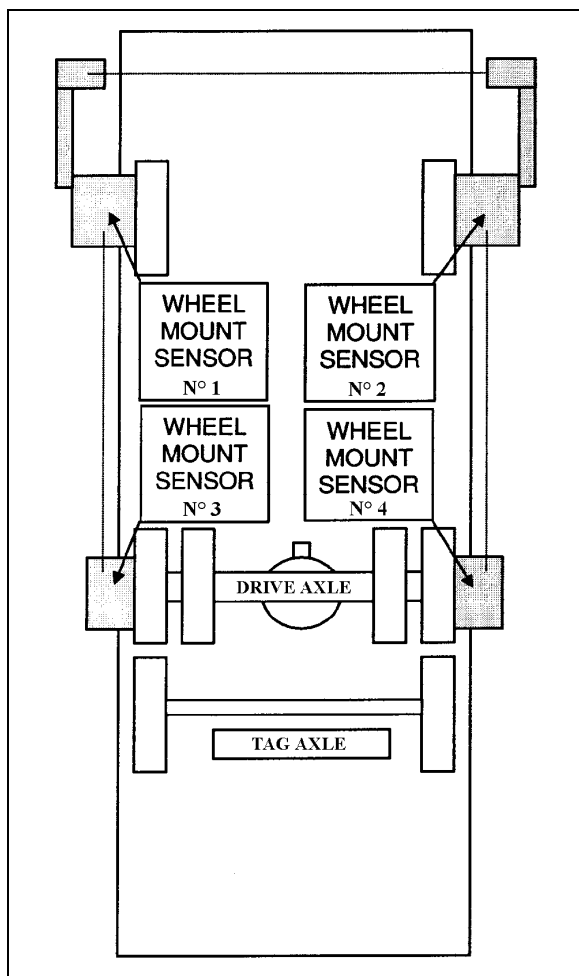

FIGURE 7: FRONT & DRIVE AXLE ALIGNMENT 11025
- With the system installed as in figure 7, adjust drive axle according to specifications' chart below.
3. Install wheel mount sensors on front end and drive axle wheels (fig. 7).
See reference numbers on wheel mount sensors (fig.7).